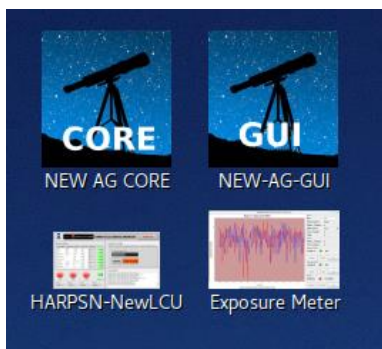

Figure 5 - WSOPER workstation desktop
- a) Click on the **HarpsN-NewLCU icon (Figure 5)** , or open a shell from any linux machine and type: `rdesktop -T LCU 161.72.92.20 -g89%`